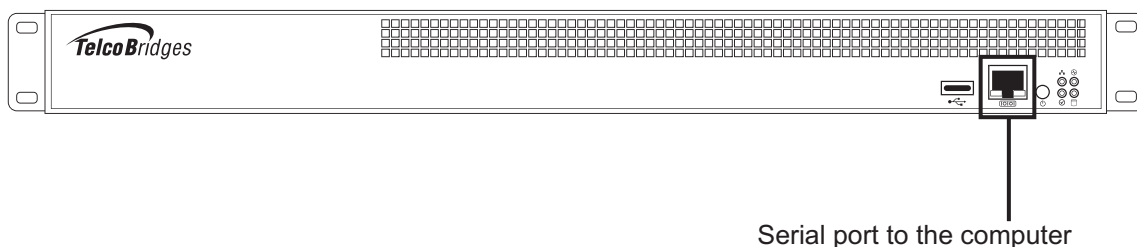

Figure 3.1 Computer to 800 Series Gateway Serial Port Connection
1. Connect one end of a CAT5 RJ-45 (male-male) cable to the Tmedia serial adapter (both supplied with unit). Connect the DB9 to RJ-45 to the serial port of the computer and the other end of the CAT5 RJ-45 (male-male) cable to the serial port (labeled 10101) of the 800 series gateway as shown in figure 3.1 on page 40. See Section A.2 “RJ48 Console Wiring Diagram” on page 48 for a RJ-45 pin out description.